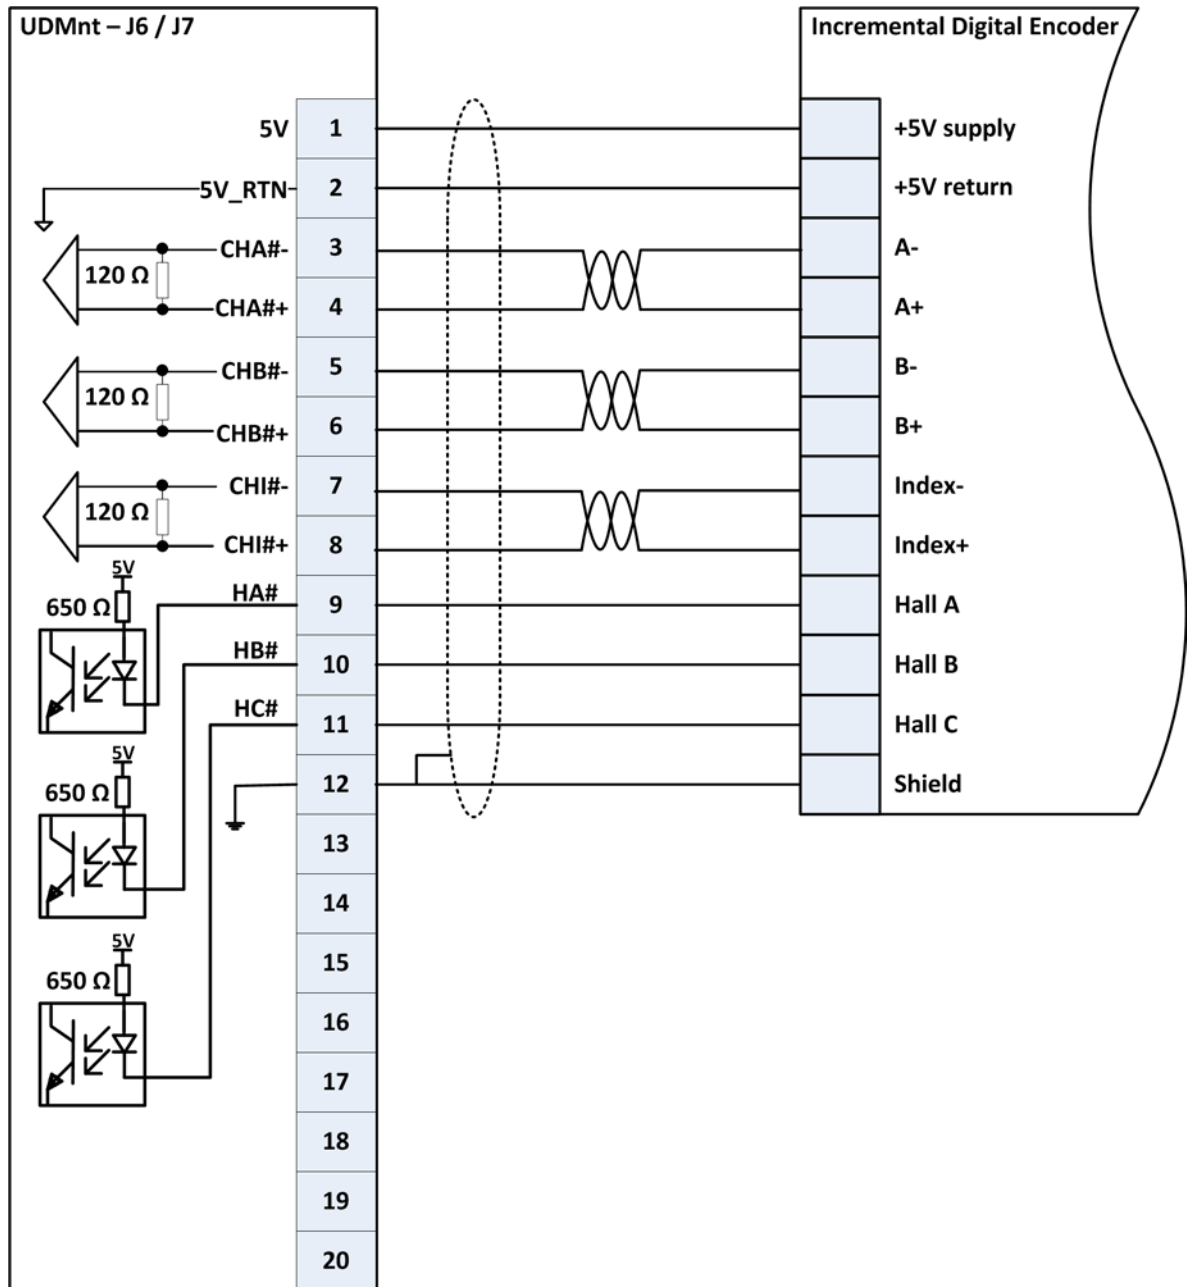
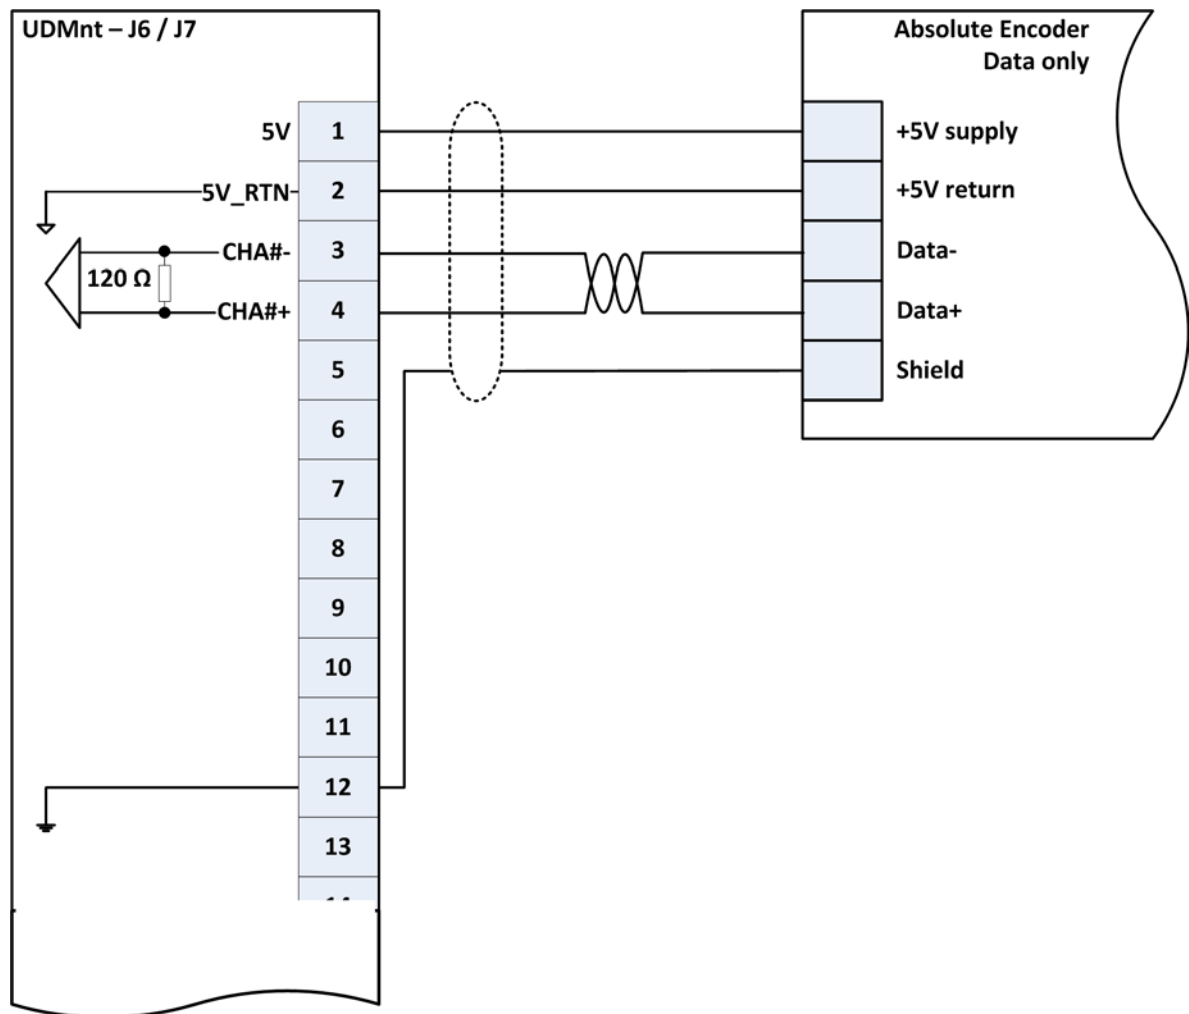

Figure 23. Incremental Digital Encoder with Hall / Commutation Tracks AqB,I Connections
Figure 27. Absolute Serial Encoders with Data Line Only Connections (Tamagawa Smart-Abs, Panasonic)
17. Connect the motors to J3 J4 according to Figure 23 through Figure 27.